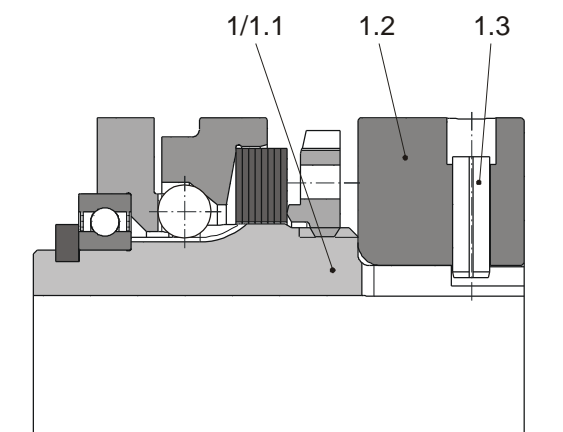

Fig. 15
2. Turn the adjusting nut (5) back anti-clockwise until the cup spring package (10) is completely relaxed.
3. Loosen the clamping screw (2) of the clamping ring (1.2) and remove the clamping ring (1.2) from the hub (1).
4. Screw the adjusting nut (5) completely off the hub (1).
5. Change the cup spring layering (10) acc. Table 3.
6. Screw the adjusting nut (5) clockwise onto the hub (1) up to contact on the cup springs (10).
7. Push the clamping ring (1.2) into the correct position (for position of the spring pin (1.3) in the clamping ring (1.2), please see Fig. 15) up to contact on the hub shoulder (1), and tighten the clamping screw (2) to the specified torque (acc. Table 1).
8. Turn the adjusting nut (5) clockwise by the number of graduation lines acc. Table 3. This achieves a torque of approx. 80 % of the maximum value on the respective cup spring layering (10). By turning the adjusting nut (5) clockwise, the clutch torque can be reduced even further. By turning the adjusting nut anti-clockwise, the clutch torque can be increased.